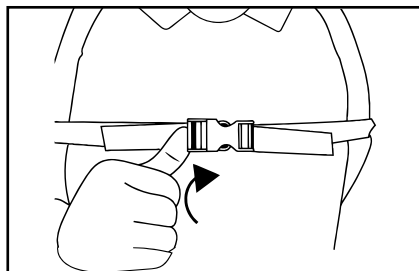
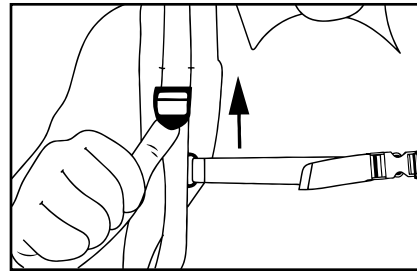

FIGURE 14
FIGURE 15
6.3 Lift the back tabs of the buckles to loosen the backpack straps. **FIGURE 14. FIGURE 15.**